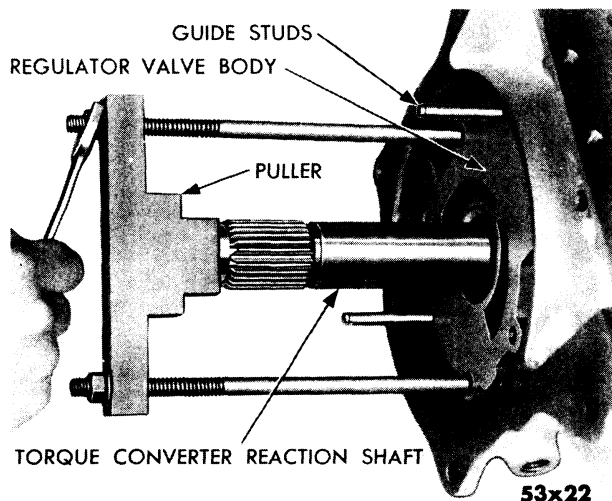

Fig. 95—Removal of Regulator Valve Body
- (1) Using the two threaded holes provided in the regulator valve body, attach puller, Tool C-3287, and install guide studs, Tool C-3288. (Fig. 95.) Pull regulator body and discard gasket.
- (2) The regulator valve body is made of aluminum and requires care in handling to avoid damage. Place body and both valves in pan containing a clean solvent. Wash thoroughly, and dry with compressed air. Inspect both valves for free movement in valve body. They should fall in and out of bores when both the valves and body are dry. Crocus cloth may be used to polish valves, providing care is exercised not to round the